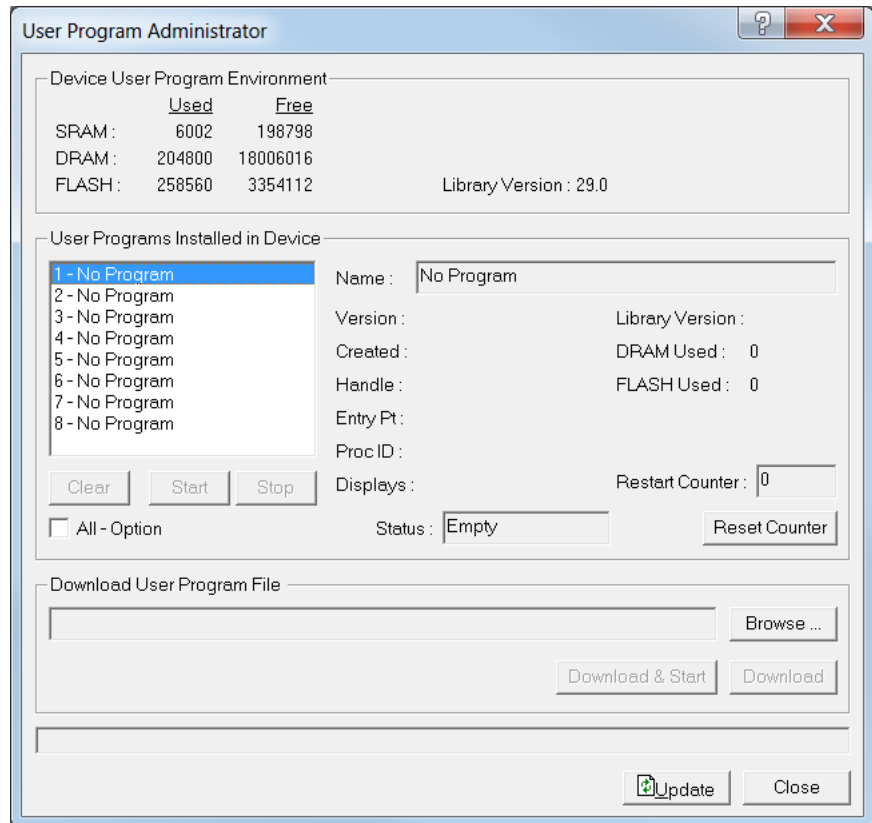

Figure 2-3. User Program Administrator
4. Select **Utilities > User Program Administrator** from the ROCLINK menu bar. The User Program Administrator screen displays (see *Figure 2-3*):